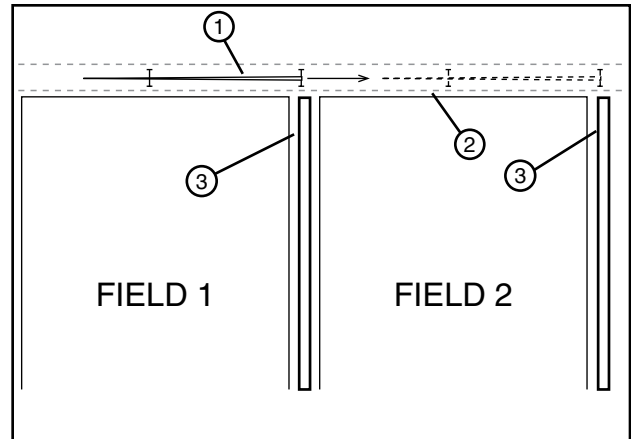

Figure 77-1 1. Machine
1. Position the machine in the tow lane. See figure 77-1.